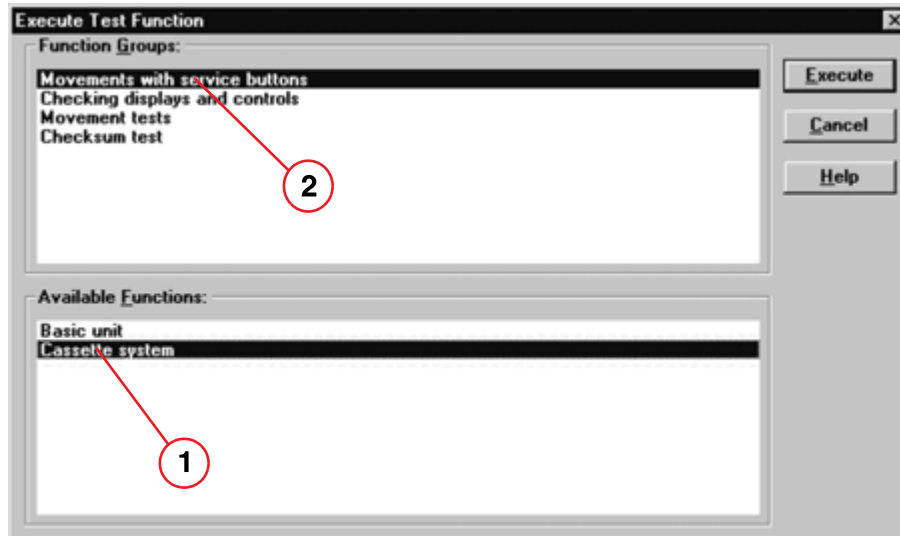

Fig. 23: Window "Execute Test Function"
- Select **Movements with service buttons** under **Function Groups** (2/Fig. 23 / p. 41).
- If you select **Basic unit** (1/Fig. 23 / p. 41) under **Available Functions**, the following window appears (Fig. 24 / p. 42) after selecting **Execute**.
- If you select **Cassette system** (1/Fig. 23 / p. 41) under **Available Functions**, the following window appears (Fig. 25 / p. 42) after selecting **Execute**.